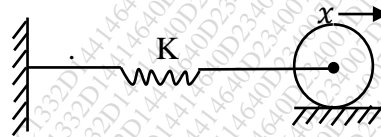

Fig. 01
- A circular cylinder of mass 4kg & radius 150mm. is connected by a spring of stiffness' 4000 N/M. as shown in fig 01 it is free to roll on horizontal rough. Surface without slipping determine the natural frequency. 10